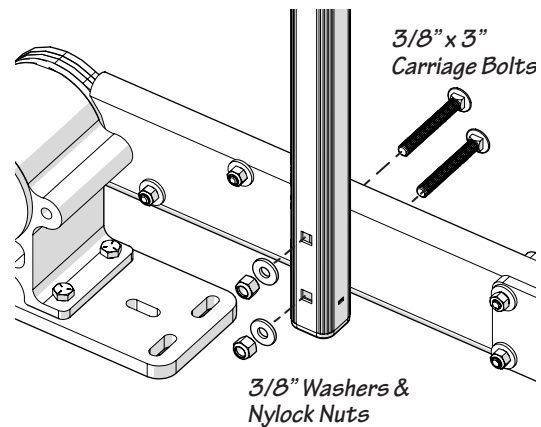

Fig. 8-2
- One worker holds the Nauti Steps along the outside. The second worker aligns the mounting holes of the hand rail and upper frame rail, as shown in Figure 8-2.
- Insert two 3/8" x 3" carriage bolts from the inside of the Nauti Steps (see Figure 8-2). Add a 3/8" washer and Nylock nut to each bolt end.